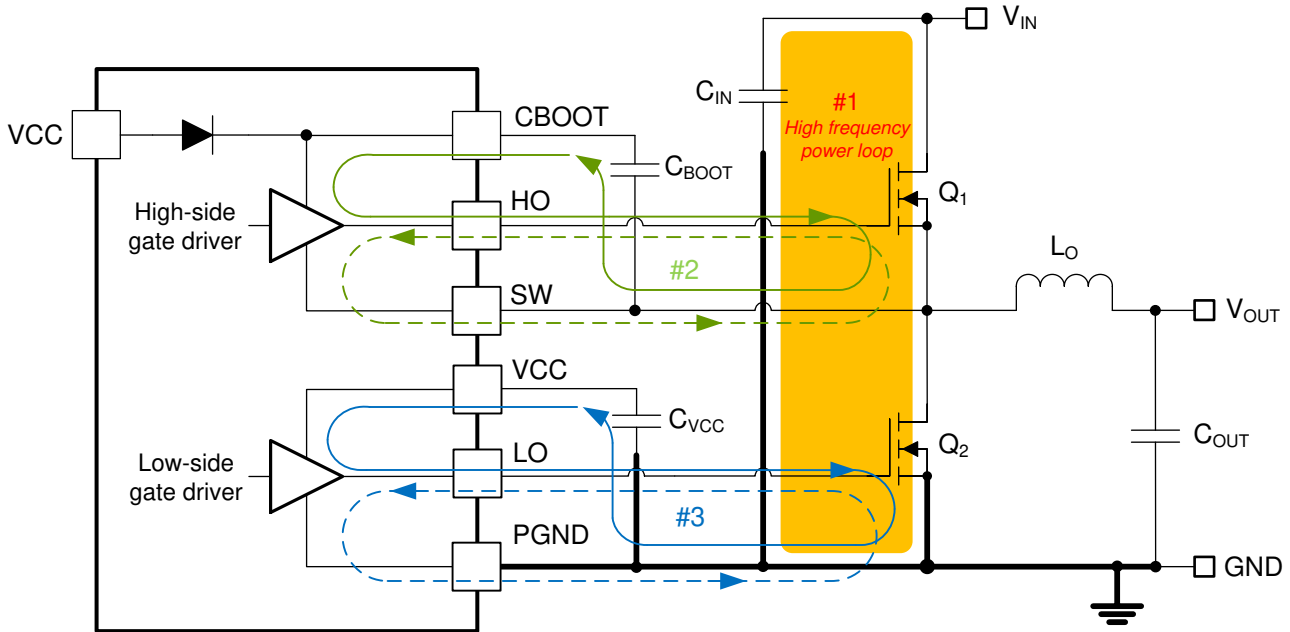

Figure 9-46. DC/DC Regulator Ground System With Power Stage and Gate Drive Circuit Switching Loops
Proper PCB design and layout is important in a high-current, fast-switching circuit (with high current and voltage slew rates) to achieve a robust and reliable design. As expected, certain issues must be considered before designing a PCB layout using the LM5148. The high-frequency power loop of a buck regulator power stage is denoted by loop 1 in the shaded area of Figure 9-46. The topological architecture of a buck regulator means that particularly high di/dt current flows in the components of loop 1, and it becomes mandatory to reduce the parasitic inductance of this loop by minimizing its effective loop area. Also important are the gate drive loops of the high-side and low-side MOSFETs, denoted by 2 and 3, respectively, in Figure 9-46.
- Loop 1: The most important loop area to minimize is the path from the input capacitor or capacitors through the high- and low-side MOSFETs, and back to the capacitor or capacitors through the ground connection. Connect the input capacitor or capacitors negative terminal close to the source of the low-side MOSFET (at ground). Similarly, connect the input capacitor or capacitors positive terminal close to the drain of the high-side MOSFET (at  $V_{IN}$ ). Refer to loop 1 of Figure 9-46.
- The SW pin connects to the switch node of the power conversion stage and acts as the return path for the high-side gate driver. The parasitic inductance inherent to loop 1 in Figure 9-46 and the output capacitance ( $C_{OSS}$ ) of both power MOSFETs form a resonant circuit that induces high frequency (greater than 50 MHz) ringing at the SW node. The voltage peak of this ringing, if not controlled, can be significantly higher than the input voltage. Make sure that the peak ringing amplitude does not exceed the absolute maximum rating limit for the SW pin. In many cases, a series resistor and capacitor snubber network connected from the SW node to GND damps the ringing and decreases the peak amplitude. Provide provisions for snubber network
- Loop 2: high-side MOSFET, Q1. During the high-side MOSFET turnon, high current flows from the bootstrap (boot) capacitor through the gate driver and high-side MOSFET, and back to the negative terminal of the boot capacitor through the SW connection. Conversely, to turn off the high-side MOSFET, high current flows from the gate of the high-side MOSFET through the gate driver and SW, and back to the source of the high-side MOSFET through the SW trace. Refer to loop 2 of Figure 9-46.
- Loop 3: low-side MOSFET, Q2. During the low-side MOSFET turnon, high current flows from the VCC decoupling capacitor through the gate driver and low-side MOSFET, and back to the negative terminal of the capacitor through ground. Conversely, to turn off the low-side MOSFET, high current flows from the gate of the low-side MOSFET through the gate driver and GND, and back to the source of the low-side MOSFET through ground. Refer to loop 3 of Figure 9-46.